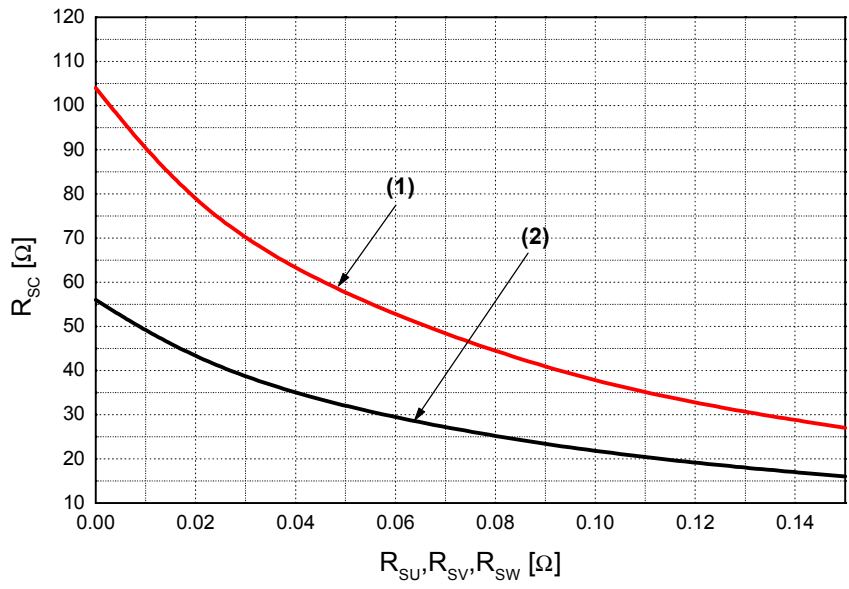

Fig. 6. R_{sc} Variation by change of Shunt Resistors (R_{SU}, R_{SV}, R_{SW}) for Short-Circuit Protection
- Short-circuit current protection is functioning only at the low-sides. It would be recommended that the value of the external sensing resistor (R_{SC}) should be selected around 56 Ω in order to make the SC trip-level of about 15A at the shunt resistors (R_{SU}, R_{SV}, R_{SW}) of 0 Ω . For the detailed information about the relationship between the external sensing resistor (R_{SC}) and the shunt resistors (R_{SU}, R_{SV}, R_{SW}), please see Fig. 6.